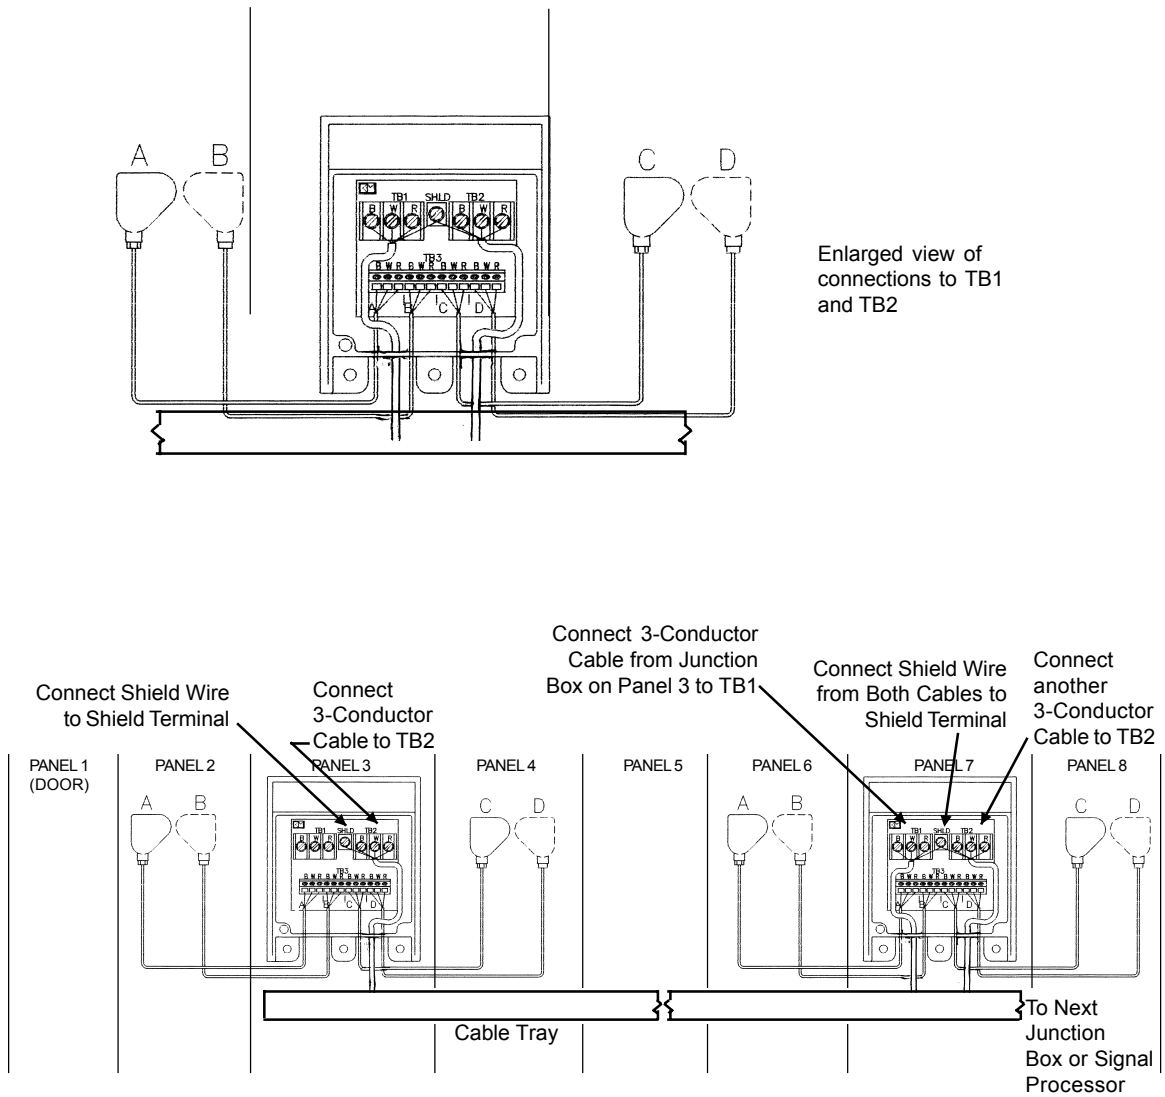

Figure 5-41. Wiring Junction Boxes Together (inside view of skirt) — Non-Conducted Installation
2. See Figure 5-40 (conduited installation) or Figure 5-41 (non-conduited installation). Route the 3-conductor cable through the fitting into the junction box farthest from the signal processor. Connect wires from the cable to the TB2 terminal in the junction box: black wire to B, white wire to W, and red wire to R. Connect the cable shield wire to the Shield terminal between TB1 and TB2.